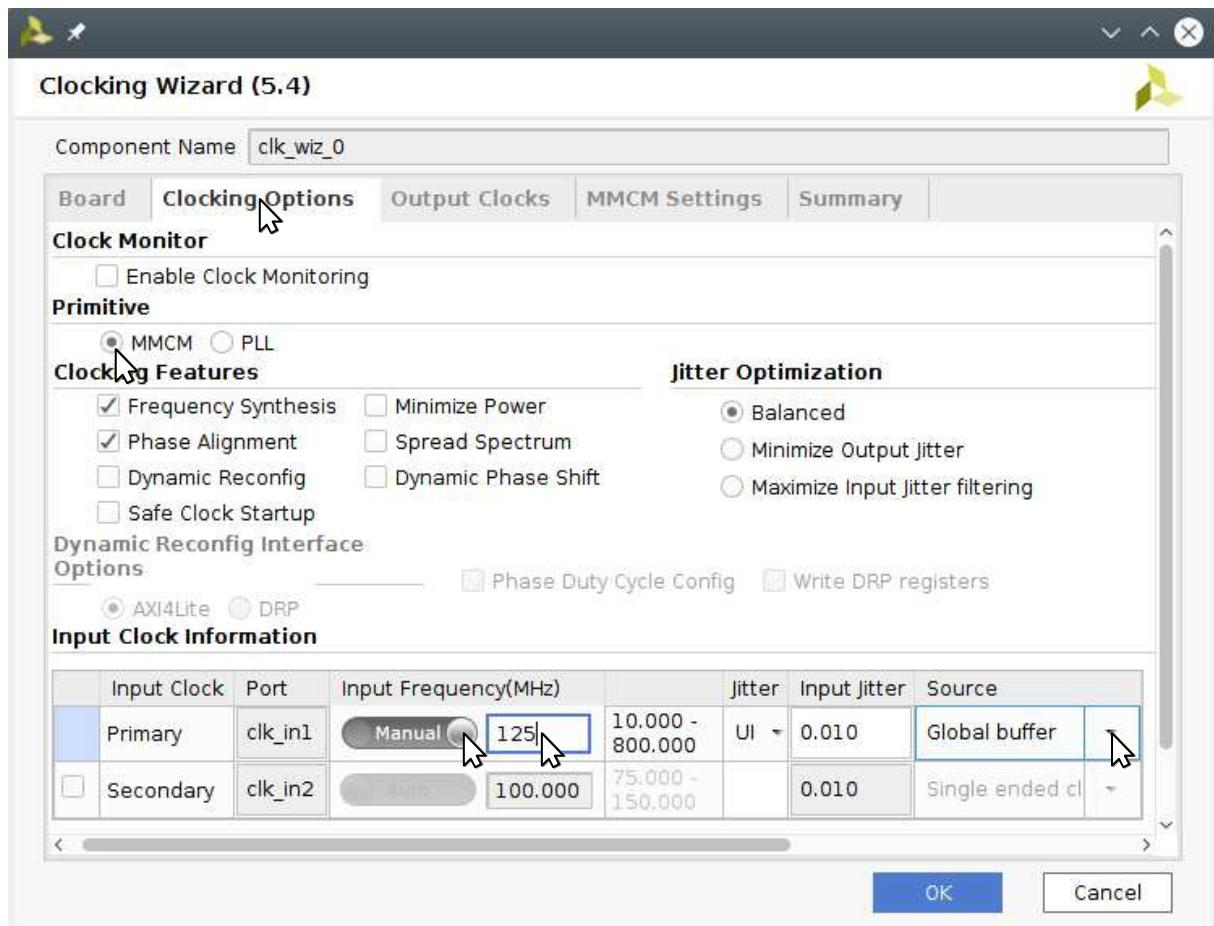
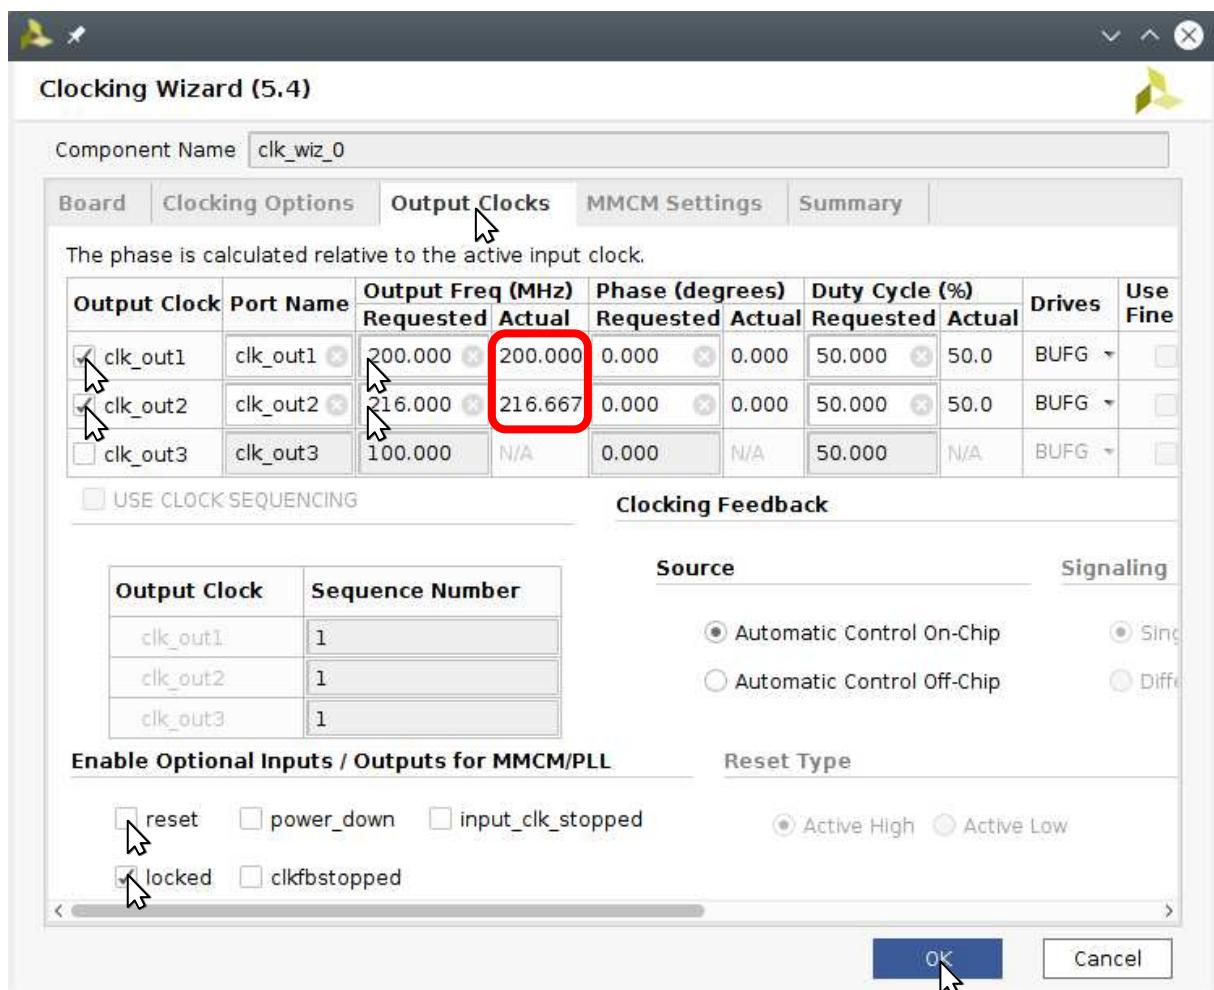

Figure 41: Re-customized “Clocking Wizard” to have a 125 MHz input clock
Figure 42: Re-customized “Clocking Wizard” to have 200 MHz and 216 MHz output clocks as well as disable the reset input
- p) The block design needs two different clocks. It requires a 200 MHz clock to be connected to the RefClk input port of the VideoSource IPB as well as a 216 MHz clock at which your IPBs will run and, thus, has to be connected to the Clock input ports of the IPBs. Available is the 125 MHz clock input pin L16 described in Figure 28. Thus, you have to customize the “Clocking Wizard” IPB to convert from this 125 MHz clock to the 200 and 216 MHz clocks. For this purpose, you customize the input of the “Clocking Wizard” to be 125 MHz as shown in Figure 41. Then, switch to the **Output Clocks** tab (see Figure 42) and select a 200 MHz clock as output on port clk_out1 and a 216 MHz clock as output on port clk_out2. Please check that the “Clocking Wizard” will really generate these clock frequencies by checking the **Actual Output Freq** column (boxed red in Figure 42). Moreover, disable the reset input pin.